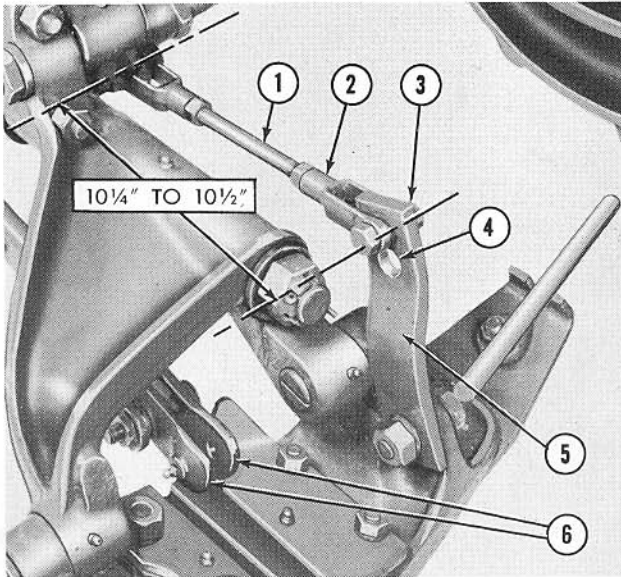

Figure 8
13. Raise the outer end of the cutter bar and position the pitman arm so the clamp (6), Figure 8, is centered between the hinge pins and lower the cutter bar to the ground.
14. Turn the yoke (2), Figure 8, on or off the lift link (1) until the distance between the lift link yoke pins is between 10 $\frac{1}{4}$ " and 10 $\frac{1}{2}$ ". Attach the yoke (2) to the desired hole on the lift lever (5) with the spacer, $\frac{3}{8}$ " x 1 $\frac{3}{8}$ " bolt, lockwasher and nut provided.
NOTE: The lift link yoke (2), Figure 8, should be attached in the lower hole (4) of the lift lever when a six foot cutter bar is used. When a seven foot cutter bar is used, attach the lift link yoke in the top hole of the lift lever as shown in Figure 8.